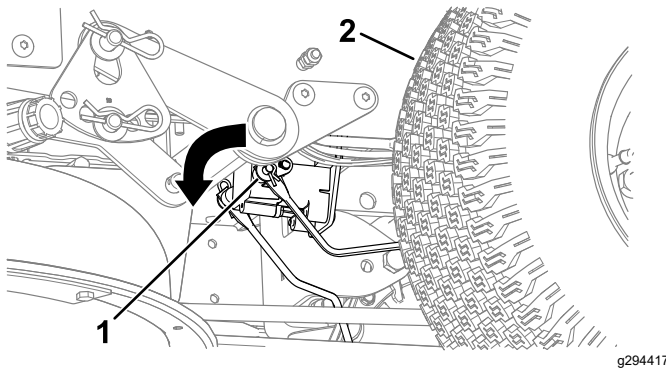

Figure 52
4. Locate the shaft on the electric brake where the brake link arms are connected (Figure 52).
5. Rotate the shaft forward to release the brake as shown in Figure 52.